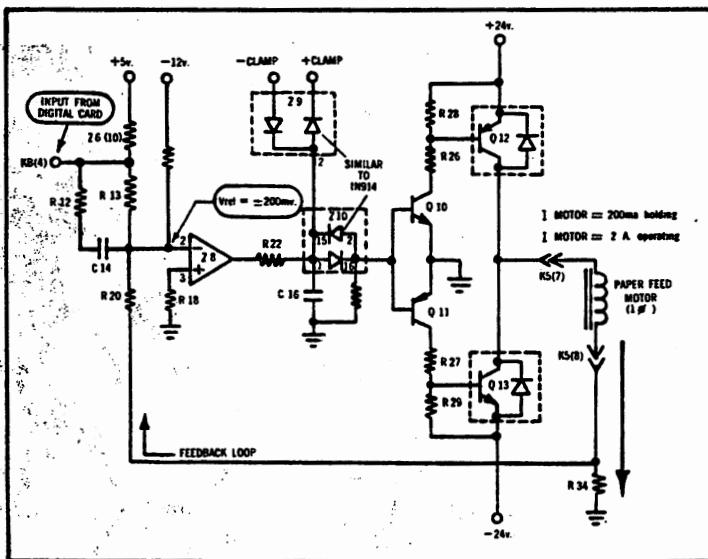

FIGURE 4-7
The Paper Feed Drive circuitry consists of two (2) identical constant-current, bipolar amplifiers with negative feedback closed-loop control. The Paper Feed motor is a 2 ϕ stepper motor with each phase being driven by one of the two constant current amplifiers. Figure 4-7 shows a simplified schematic of one phase.
NOTE: The components being referenced in this discussion may be found in either Figure 4-7 or the schematics in section 7.6.4.